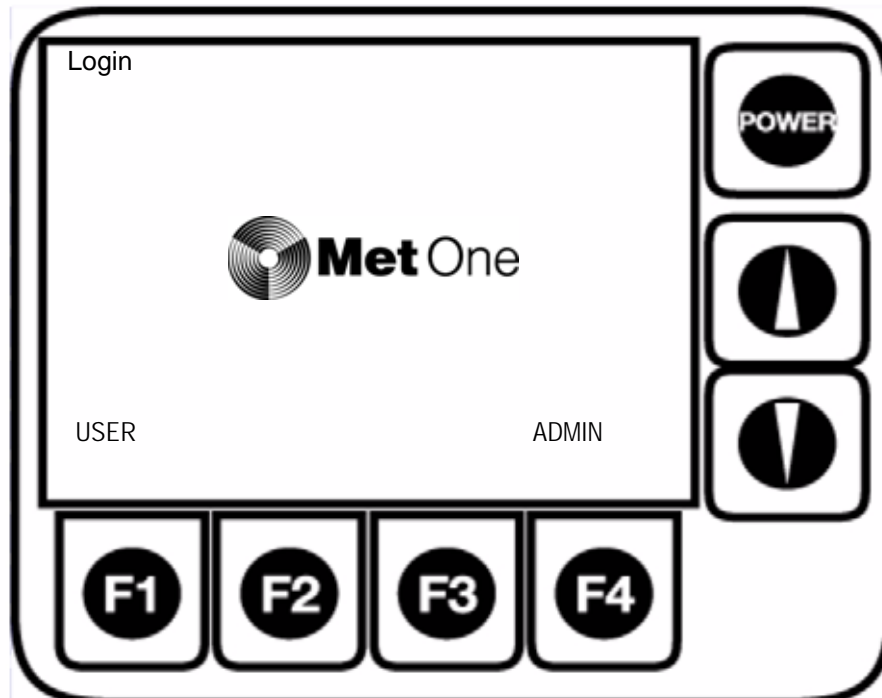

Fig 2-12 : Login Screen 1
Once the password has been enabled, the counter will display a login screen upon power-up as depicted in Figure 2-12.
- 1) From the login screen displayed at power-up shown in Figure 2-12, press the **ADMIN** or **F4** key.